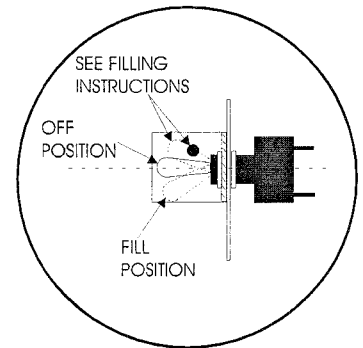

Fig. 4
Make sure the power switch (Fig.1 Item #14) is in the off (middle) position before connecting the power supply cord to prevent damage to the machine. Refer to Fig. 4 on page 8)
9. To fill the water tank, press down and hold the power-fill switch located on the rear of the coffee appliance until water flows from the brew cone into the empty glass, stainless steel decanter or thermos. Release the power-fill switch when water starts flowing into the vessel. (See Fig. 4)